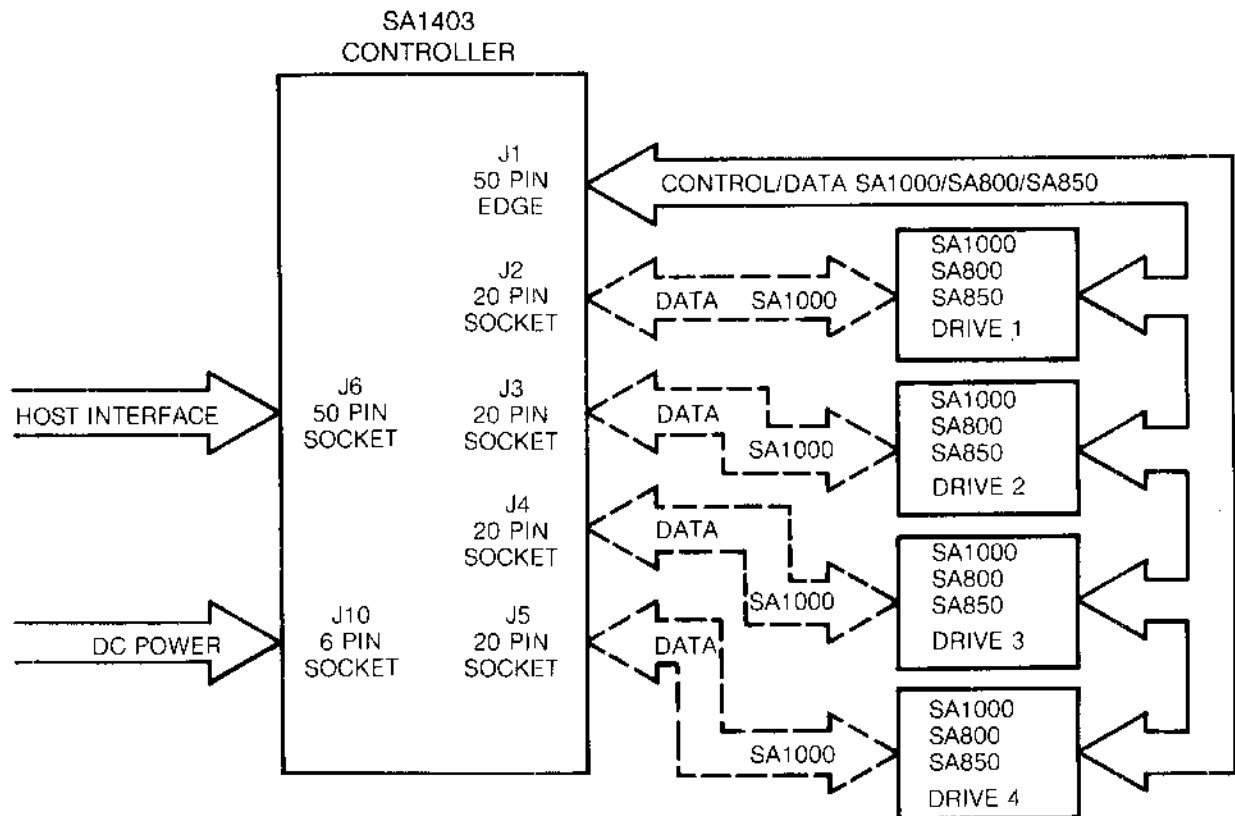

FIGURE 2. SA1403 INTERCONNECT DIAGRAM
The controller and data separator comprise a single PCB that can be mounted onto the SA1000 drive. A maximum of four (4) drives may be connected as shown in Figure 2.
Shugart SA1000 and SA800/850 disk drives are interfaced to the controller via J1, J2, J3, J4, and J5. Refer to Figure 2 for connection block diagram.